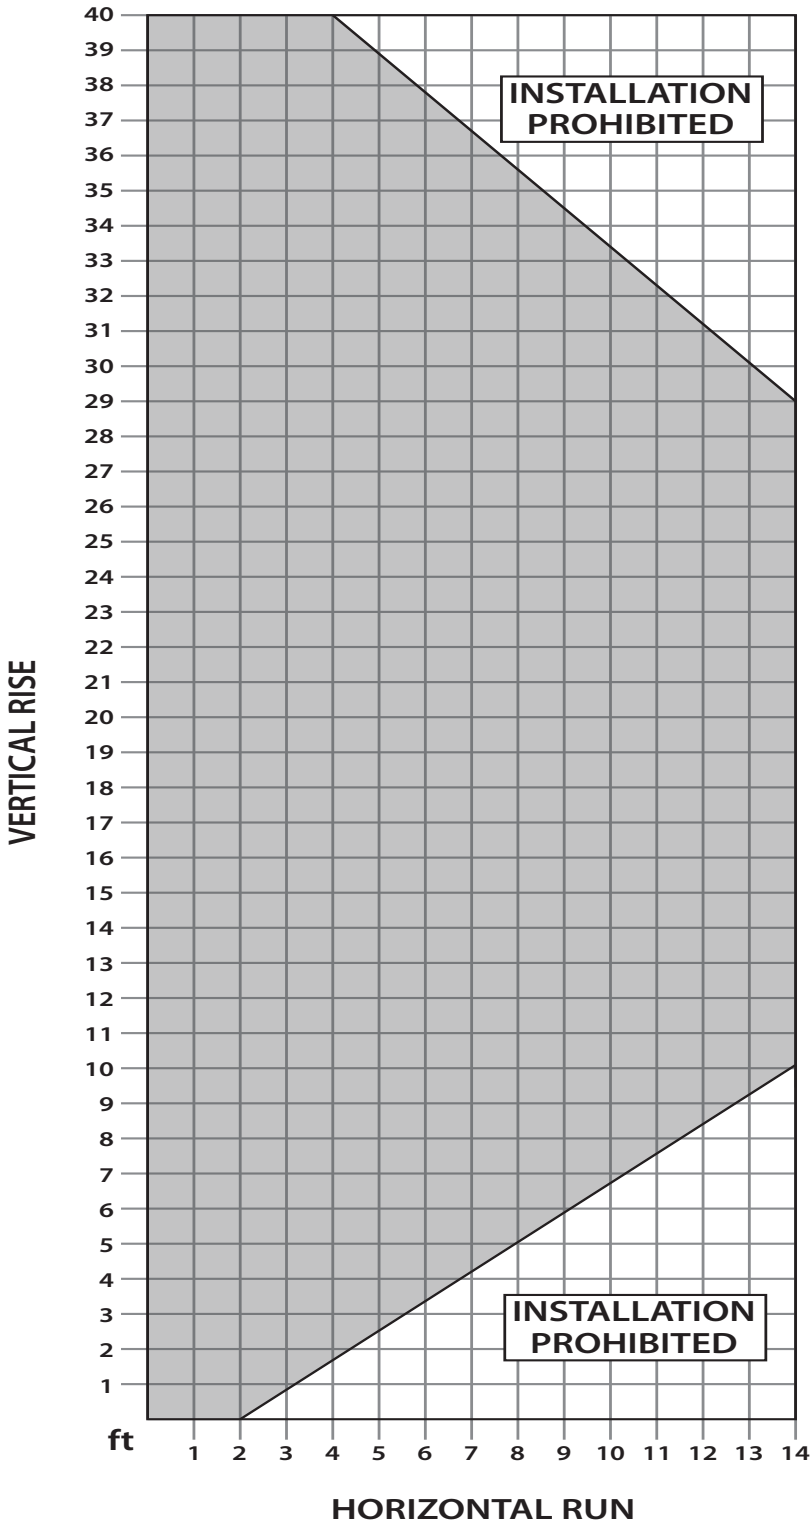

Figure 26.1 Possible Vent Configurations for Top Venting Vertical and Horizontal Terminations.
Figures 26.1 and 26.2 show the range of possible vent configurations if the unit is top or rear vented, for vertical and horizontal terminations. Any layout that remains within the shaded areas is acceptable. Having the fewest number of elbows is ideal, as they tend to disrupt air movement. Using 45° elbows is preferable to using 90° elbows. Also, a shorter vent system will perform better than a longer one. When top vented, the total length of horizontal vent pipe can not exceed 14 feet (4.27m) and the total vent length can not exceed 44ft (13.4m). Any combination of rise and run can be used as long as it lays within the shaded area (a total of two (2) 90° elbows or four (4) 45° elbows can be used. In addition to what is shown, if a 90° elbow is used in the horizontal plane, 3 feet (91.4cm) must be subtracted from the allowable horizontal run (for each 45° elbow, 1½ feet must be subtracted).